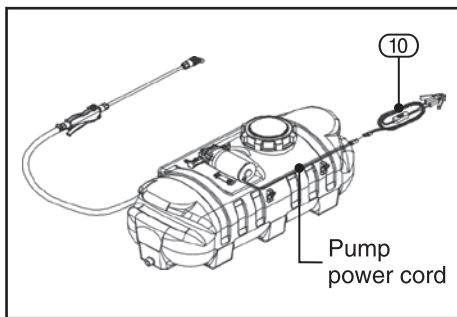

FIG. 11
9.9 ATTACH SPRAYER TO VEHICLE – FIG. 11